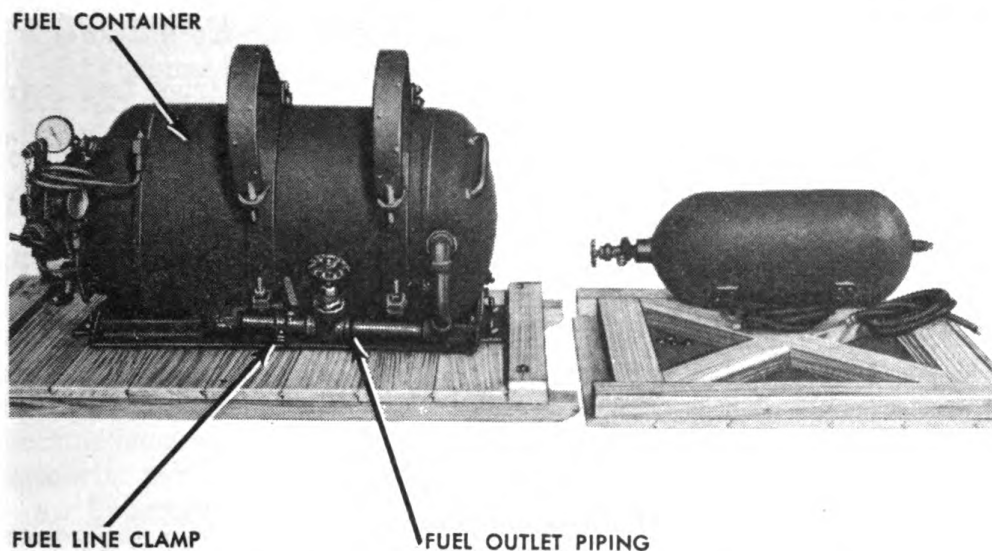

Fig. 9. Pressure container removed from fuel container.
(5) Remove pressure container (fig. 9) from pressure container straps by sliding toward pressure line plate.
(6) Loosen hex nut which connects pressure line to fuel container.
(7) Disconnect bleed hose union at bleed valve, using a wrench on hex nut of union.